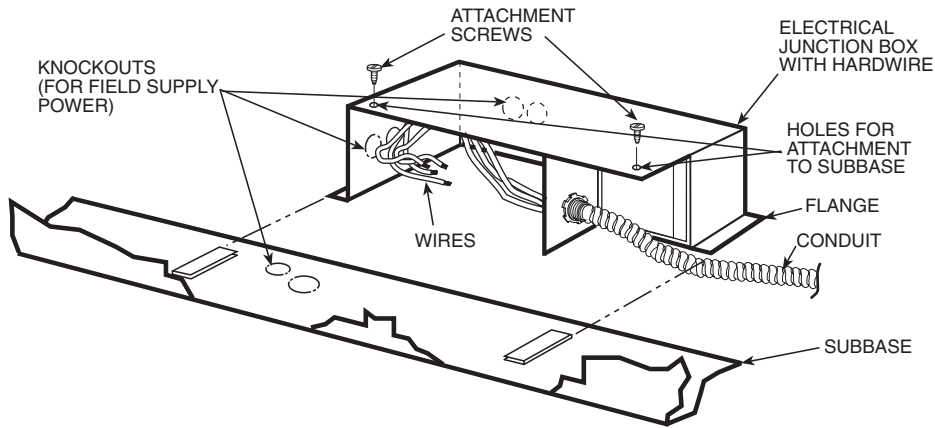

Fig. 4 — Exploded View of Electrical Junction Box to Subbase
Step 9 — Bring power into the subbase electrical junction box using one of the knockouts for conduit connections. See Fig. 4.